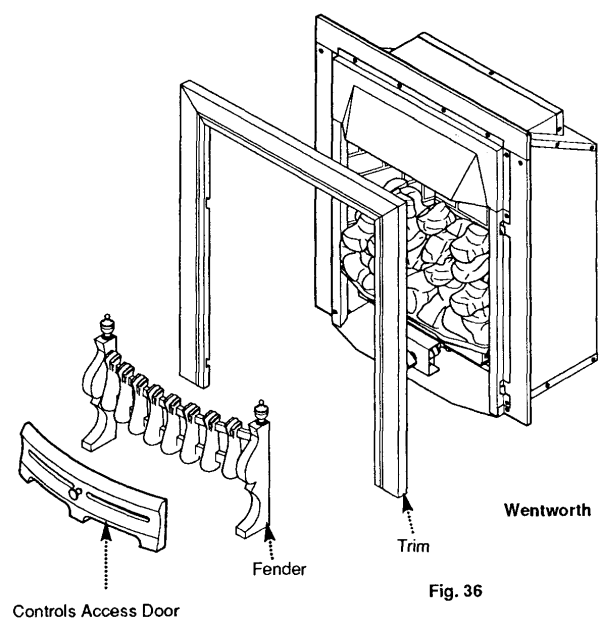

Fig. 36
2. Remove the controls access door and fender assembly (Fig. 36).
3. Remove the trim by lifting outwards and upwards over slots (Fig. 36).